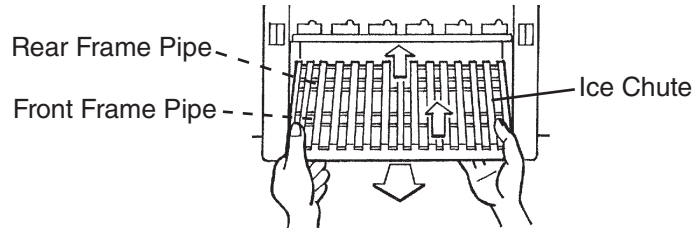

Fig. 41
- 6) Lift off the ice chute from the front frame pipe and then from the rear frame pipe. See Fig. 41.